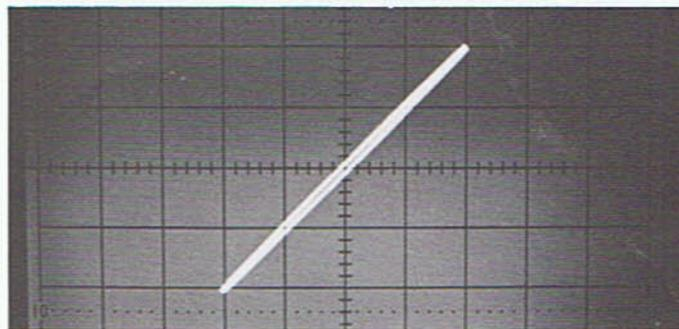

Fig. 12 — The azimuth setting is correct when the vector pattern shows a 0° phase shift.
7. Adjust the azimuth adjustment screw until the vector pattern is as close as possible to a straight line with zero phase shift (45° angle) as shown in Fig. 12.
9. Press the "VECTOR" display pushbutton on the SC61 and adjust the record head azimuth adjustment until the vector pattern is as close as possible to a straight line with zero phase shift (45° angle) as shown in Fig. 12.